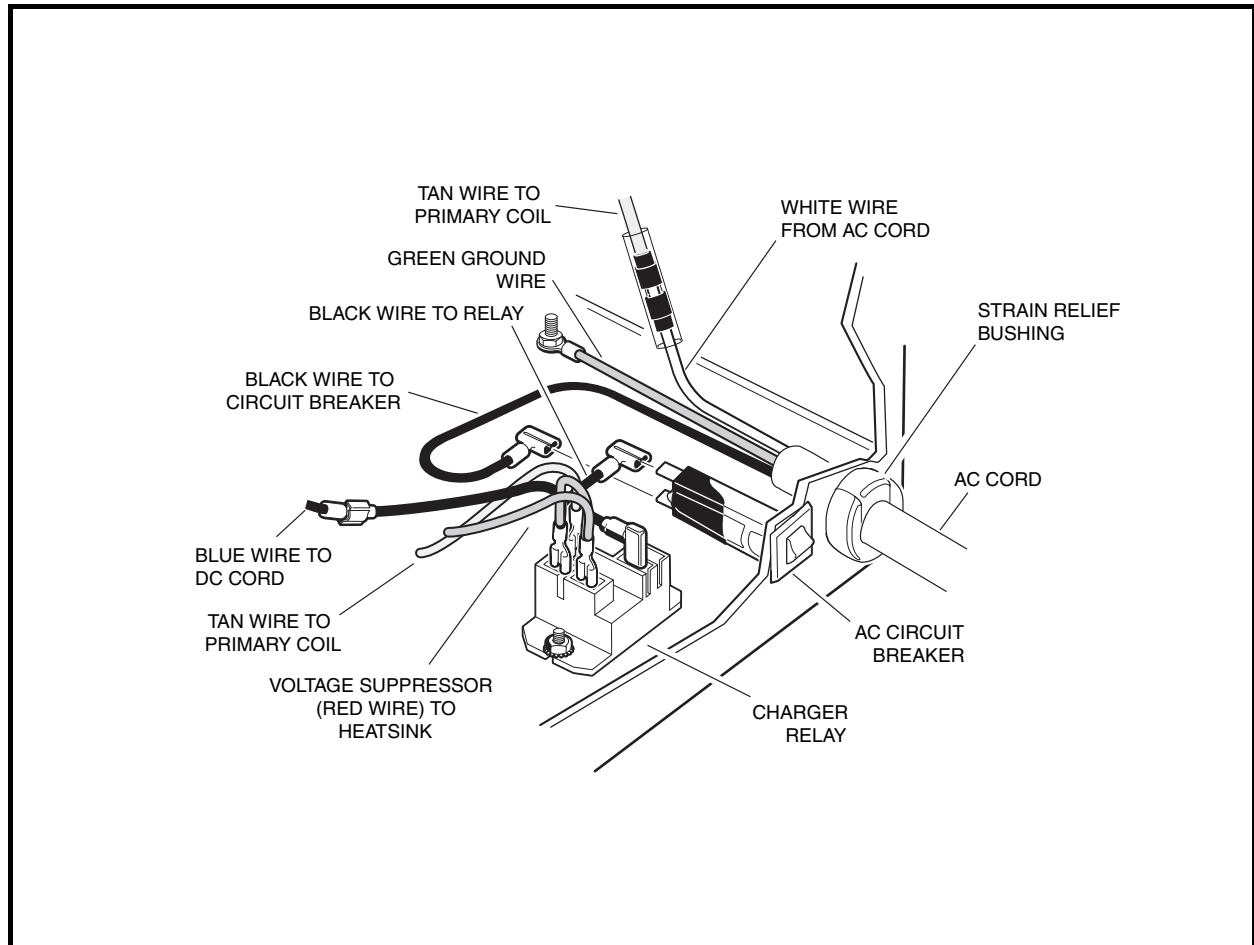

Figure 3-27 Charger Relay
3. Remove nut attaching voltage suppressor (18-gauge red wire) to heatsink (**Figure 3-27, Page 3-33**).
NOTE: The charger relay blade connector is located off-center within the relay housing. When connecting voltage suppressor slip-on connector to relay blade connector, make sure slip-on connector is positioned so that flat side of connector is closest to relay housing (**Figure 3-27, Page 3-33**).
3. Disconnect all wires from the relay (**Figure 3-27, Page 3-33**).
1. Install in reverse order of removal. Connect wires as shown (**Figure 3-27, Page 3-33**). Tighten nut securing relay to charger base to 18 in-lb (2.0 N·m).
3. Disconnect the two black wires attached to the AC circuit breaker (**Figure 3-27, Page 3-33**).
3. Disconnect the AC cord black wire from the AC circuit breaker (**Figure 3-27, Page 3-33**).
5. Disconnect the AC cord green wire from the charger base (**Figure 3-27, Page 3-33**).
1. Insert the black, white, and green leads of the new AC cord into the charger through the hole in the charger face (**Figure 3-27, Page 3-33**).